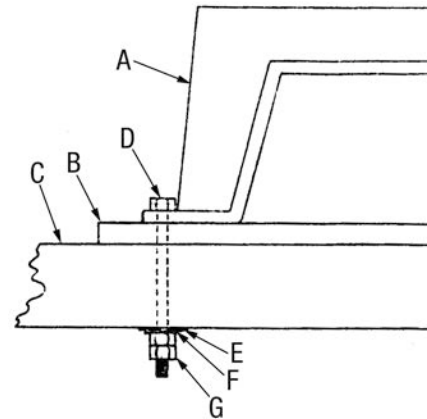

Figure 3
1. When mounting this scroll saw base (A) Fig.3 to a workbench (C), a solid bench is preferable over a plywood bench where noise and vibration will be more noticeable.
4 Hex. bolts -1/4 - 20 (D) Fig.3
4 Washers 9/32" (E) Fig.3
4 Lock washers 9/32" (F) Fig.3
8 Hex. nuts 1/4 - 20 (G) Fig.3
3. A soft foam pad (B) Fig.3 to place between your scroll saw and your workbench is not supplied but we recommend the use of such a pad to reduce noise and vibration. The size of the pad should be 24"x12"x1/2". See mounting illustration in Fig.3.